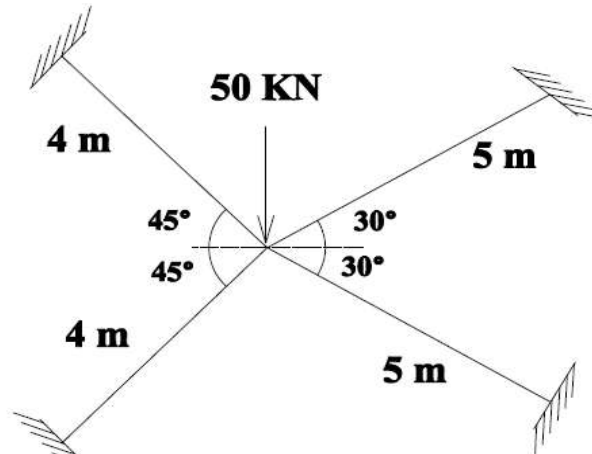

Fig.5
3. Resolve the forces in the members of the truss shown in Fig.5 by finite element method. Take $E = 200 \text{ GPa}$.